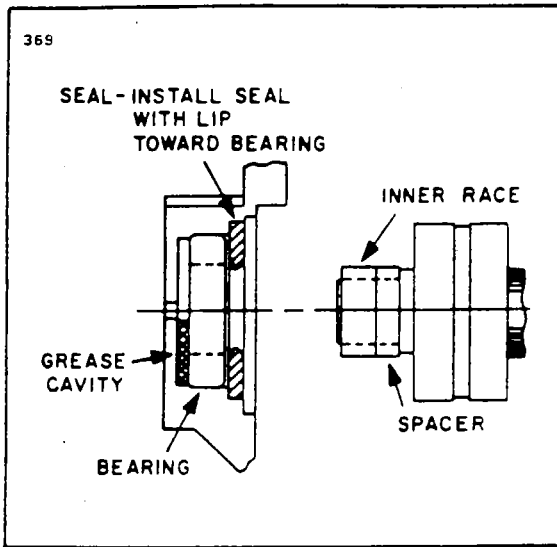

Figure 10-24k. Slip Ring End Bearing Assembly
e. Install the slip ring end bearing and oil seal. Make sure the lip of the oil seal is toward the bearing. Stake the seal in place. Correct assembly of bearing, seal, inner race and spacer as shown in Figure 10-24k.